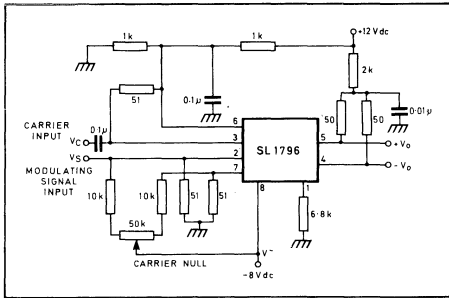

Fig. 7 Carrier rejection and suppression
Carrier null is achieved by balancing the currents in the differential amplifier by means of a bias trim potentiometer ( $R_1$  of Fig. 7).
Capacitors  $C_1$  and  $C_2$  (Fig. 7) should be selected for a reactance of less than 5.0 ohms at the carrier frequency.
**TEST CIRCUITS (FIGS. 7 TO 12)**